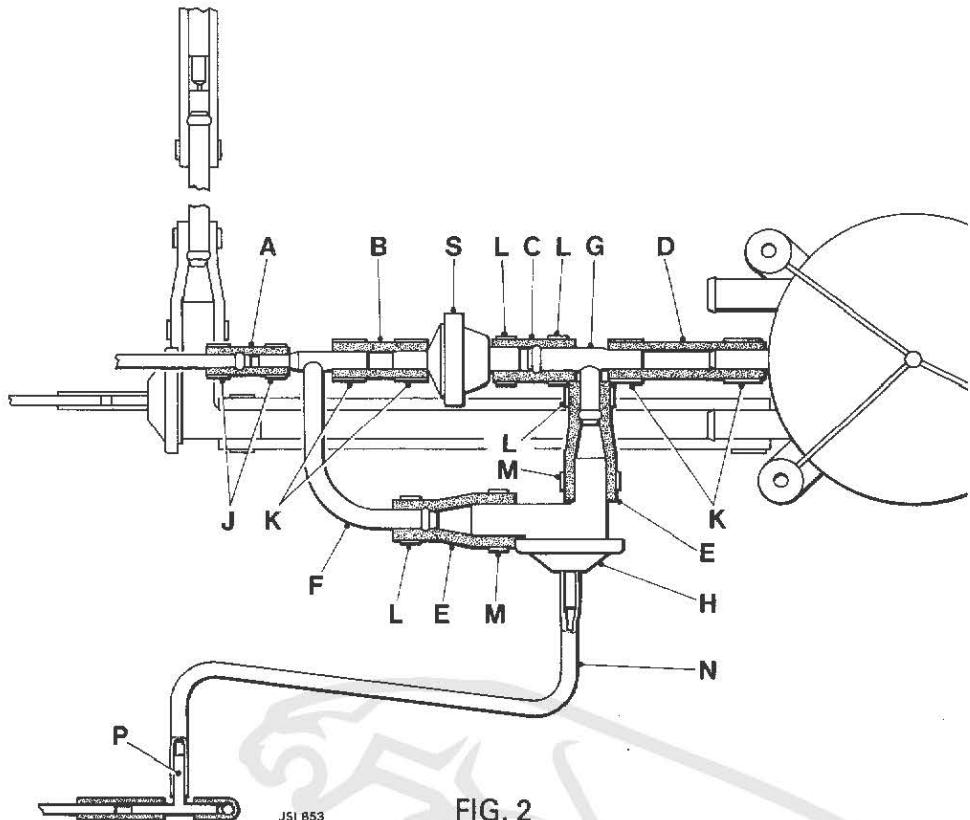

FIG. 2
10. Assemble the parts as shown in Fig. 2, using the vehicle's existing 2 psi valve, CAC 3101 (Fig. 2 S).